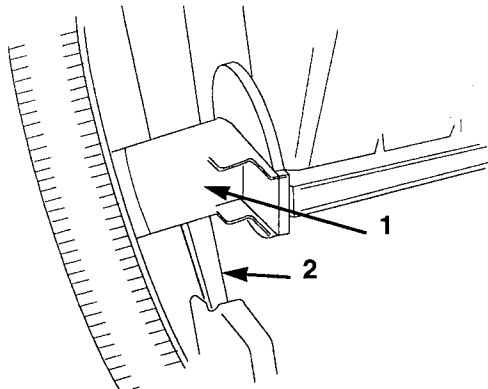

Figure 33
2. Rotate the axle supports so the thin part of its flange fits between the mower handles (Fig. 33).